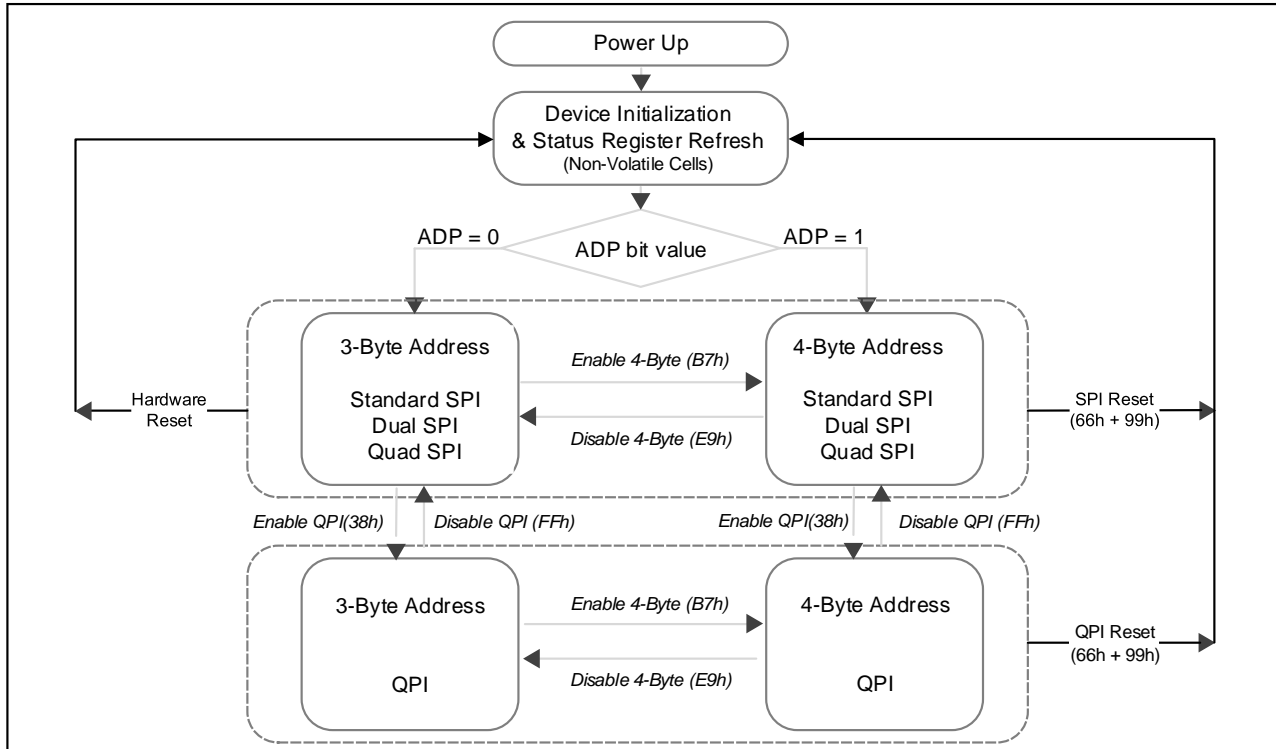

Figure 3. XM25QH512C Serial Flash Memory Operation Diagram
The XM25QH512C supports Quad Peripheral Interface (QPI) operations only when the device is switched from Standard/Dual/Quad SPI mode to QPI mode using the “Enter QPI (38h)” instruction. The typical SPI protocol requires that the byte-long instruction code being shifted into the device only via DI pin in eight serial clocks. The QPI mode utilizes all four IO pins to input the instruction code, thus only two serial clocks are required. This can significantly reduce the SPI instruction overhead and improve system performance in an XIP environment. Standard/Dual/Quad SPI mode and QPI mode are exclusive. Only one mode can be active at any given time. “Enter QPI (38h)” and “Exit QPI (FFh)” instructions are used to switch between these two modes. Upon power-up or after a software reset using “Reset (99h)” instruction, the default state of the device is Standard/Dual/Quad SPI mode. To enable QPI mode, the non-volatile Quad Enable bit (QE) in Status Register-2 is required to be set. When using QPI instructions, the DI and DO pins become bidirectional IO0 and IO1, and the /WP and /HOLD pins become IO2 and IO3 respectively. See Figure 3 for the device operation modes.